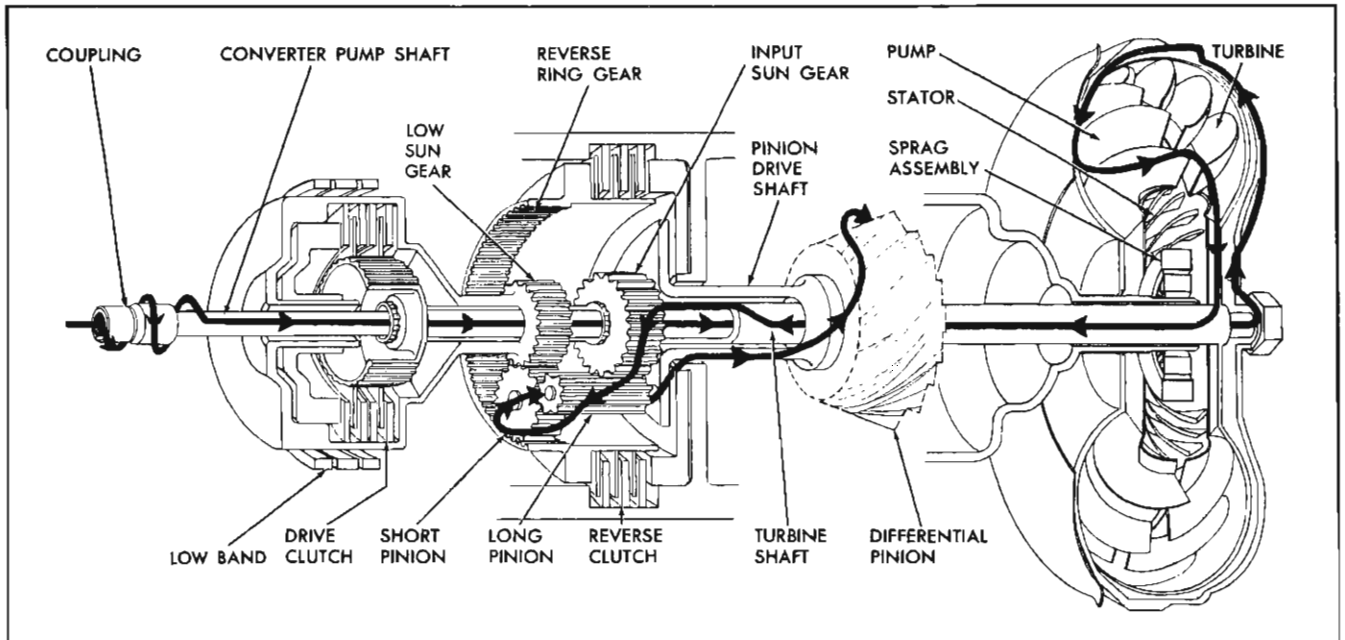

Fig. 7A-5 Power Flow—Reverse
**POWER FLOW—REVERSE (FIG. 7A-5)**